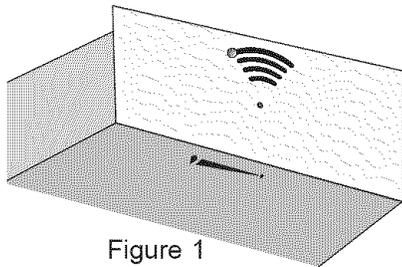
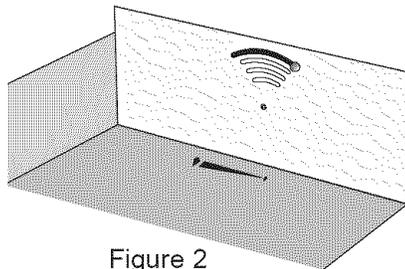

Figure 1
Figure 2
The humidity controller is located on the inside of the warmer drawer and used to control humidity in the warmer drawer. The humidity control knob can be set at any position between Moist  (Figure 1) and Crispy  (Figure 2) position. To set the humidity controller, slide the humidity control knob to the desired location.
3. Locate glide lever on each side of drawer, pull up on the right glide lever and push down on the left glide lever (See Figure 1).
1. Pull the plastic slider to the front of the glide slots on each side of the drawer cavity (See Figure 2).